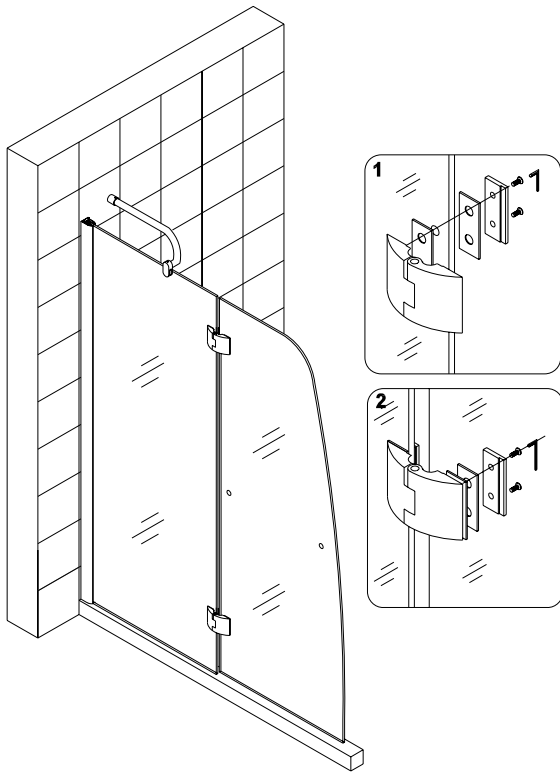

Fig 5
4. Install the **hinges (04)** onto the stationary glass and the **glass door (05)**. Upper edge of the glass door should be on the same level as upper edge of the stationary glass (fig 5).
You will need assistance in this process. Start off by attaching the hinges to the stationary glass. Place the hinge from the outside and screw it in from the inside, do this for the bottom hinge and the top hinge, but start first from the top hinge when you begin to put the door on. Make sure that until both hinges are installed securely, the door does not swing around or lean/bend to any side because that could cause the hinge to snap. After the hinges are installed open and close the door to make sure it's nice and smooth (fig 5).